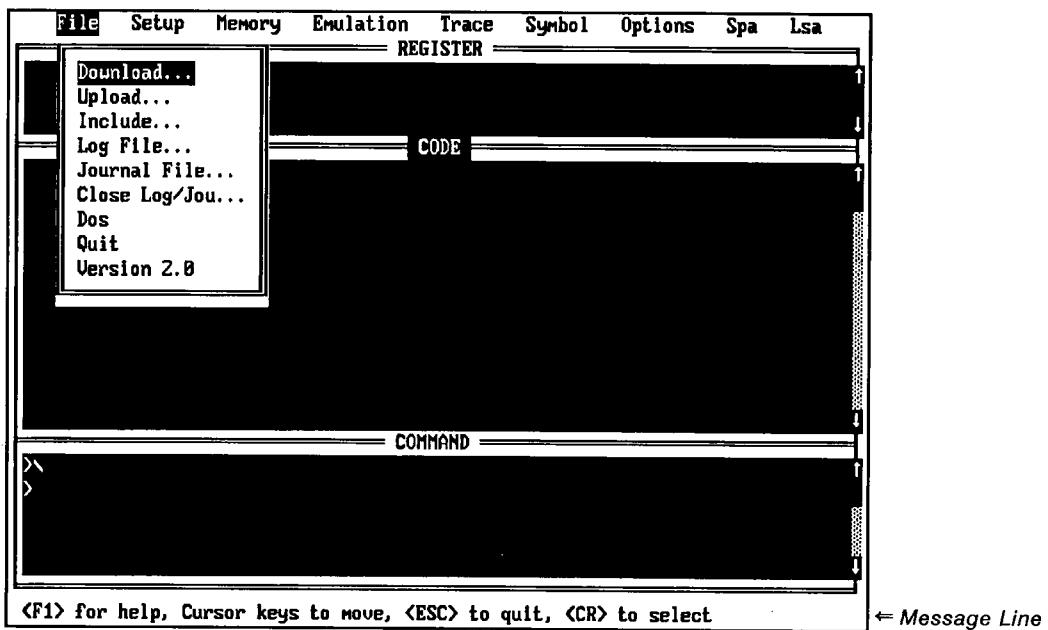

Figure 1-8 Pull-Down Menu Message Line
Pull-down menu Message Line (Figure 1-8) provides hints to following keystrokes:
b) Screen with pull-down menu on display (Figure 1-8):